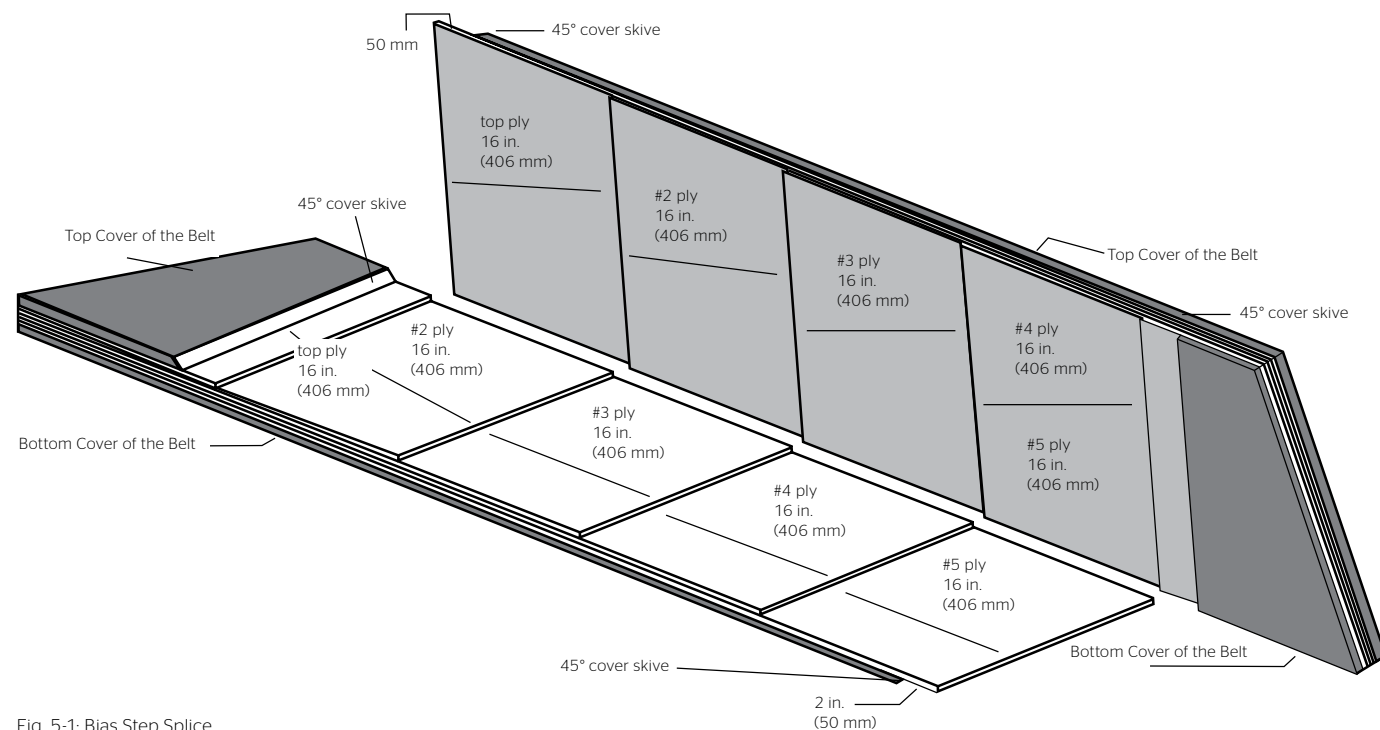

Fig. 5-1: Bias Step Splice
1. The illustration Fig. 5-1 below shows the Bias Step Splice and how the plies from each belt end are stepped down and aligned to make the splice.